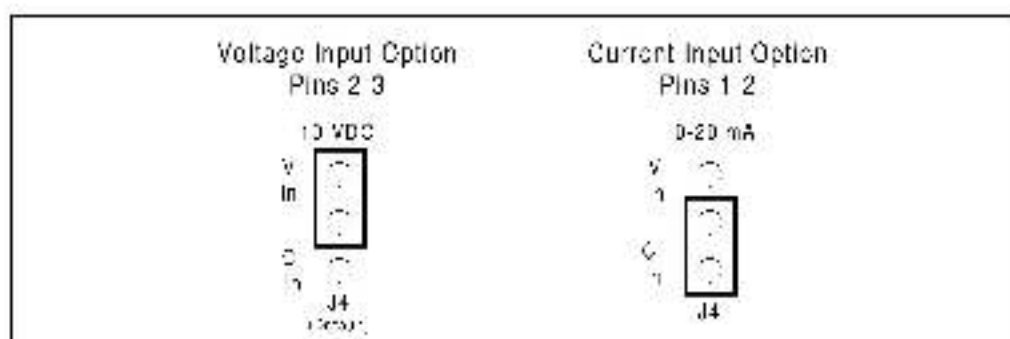

Figure 2.7 – Jumper J4 Settings for Analog Input Speed Reference
Step 8. Locate pin 1 on jumper J4. Move the jumper to the desired setting as shown in figure 2.7.